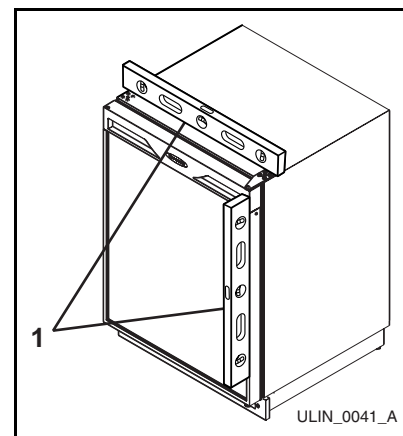

Figure 8
1. Use a level to check the levelness of the unit from front to back and from side to side. Level should be placed along top edge and side edge as shown (Figure 8).